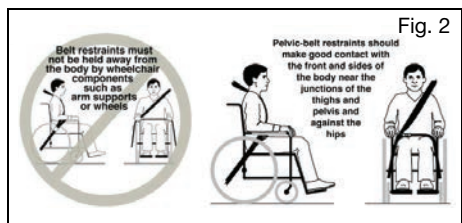

Fig. 2
- Attach occupant restraints in accordance with the occupant restraint manufacturer's instructions and RESNA WC-4, Section 18 or ISO 10542-1, Part 1 (Fig. 2).
- Both pelvic and shoulder belt restraints should be used to reduce the possibility of head and chest impacts with vehicle components (Fig. 2).